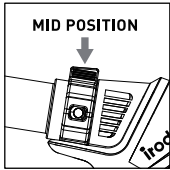

Fig.2
- Please make sure the **Air Control Ring** is set to the mid position. (Fig.2)